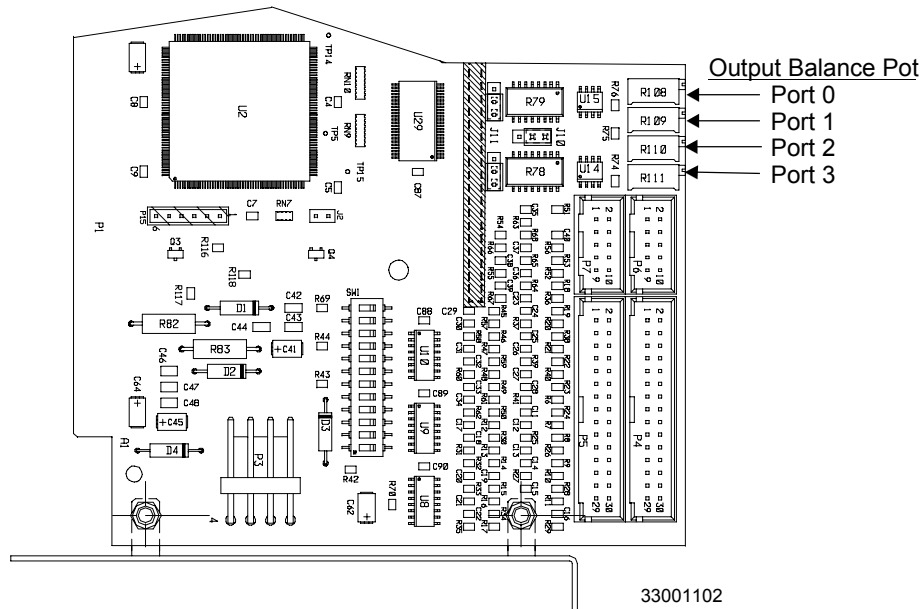

Figure 13, ANILAM DSP² Board Balance Pots, P/N 33001102, AC Systems
Refer to **Figure 13, ANILAM DSP² Board Balance Pots, P/N 33001102, AC Systems**. Measure command voltages across **TP1** and **TP3** of the test board for AC brushless systems with differential DSP² boards. For the earliest AC systems with single-ended DSP² boards, measure command voltages across **TP1** and **TP2** of the test board.
3. Refer to **Figure 13, ANILAM DSP² Board Balance Pots, P/N 33001102, AC Systems**. Make adjustments for axis outputs 0–3 on the DSP² Board at potentiometers R108-R111 respectively.